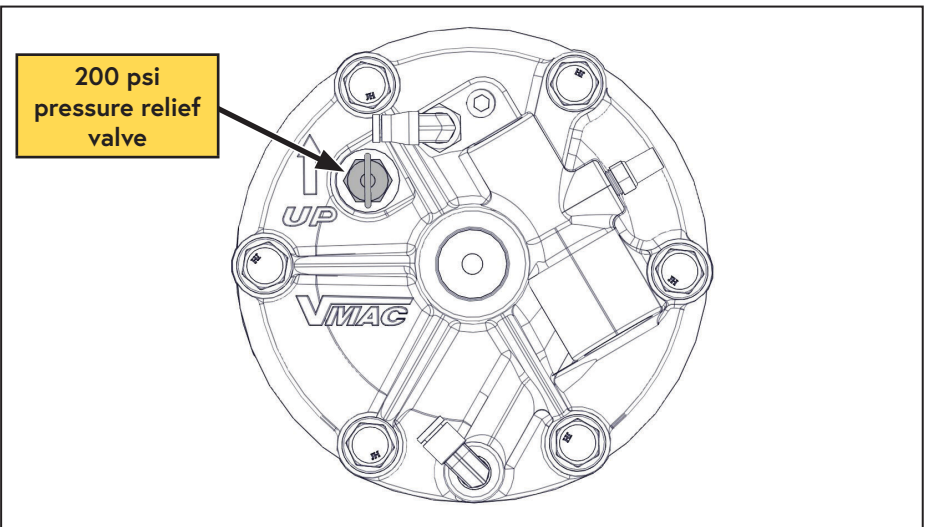

Figure 22 — Pressure relief valve
- ☐ Apply thread sealant and replace the pressure relief valve (Figure 22).